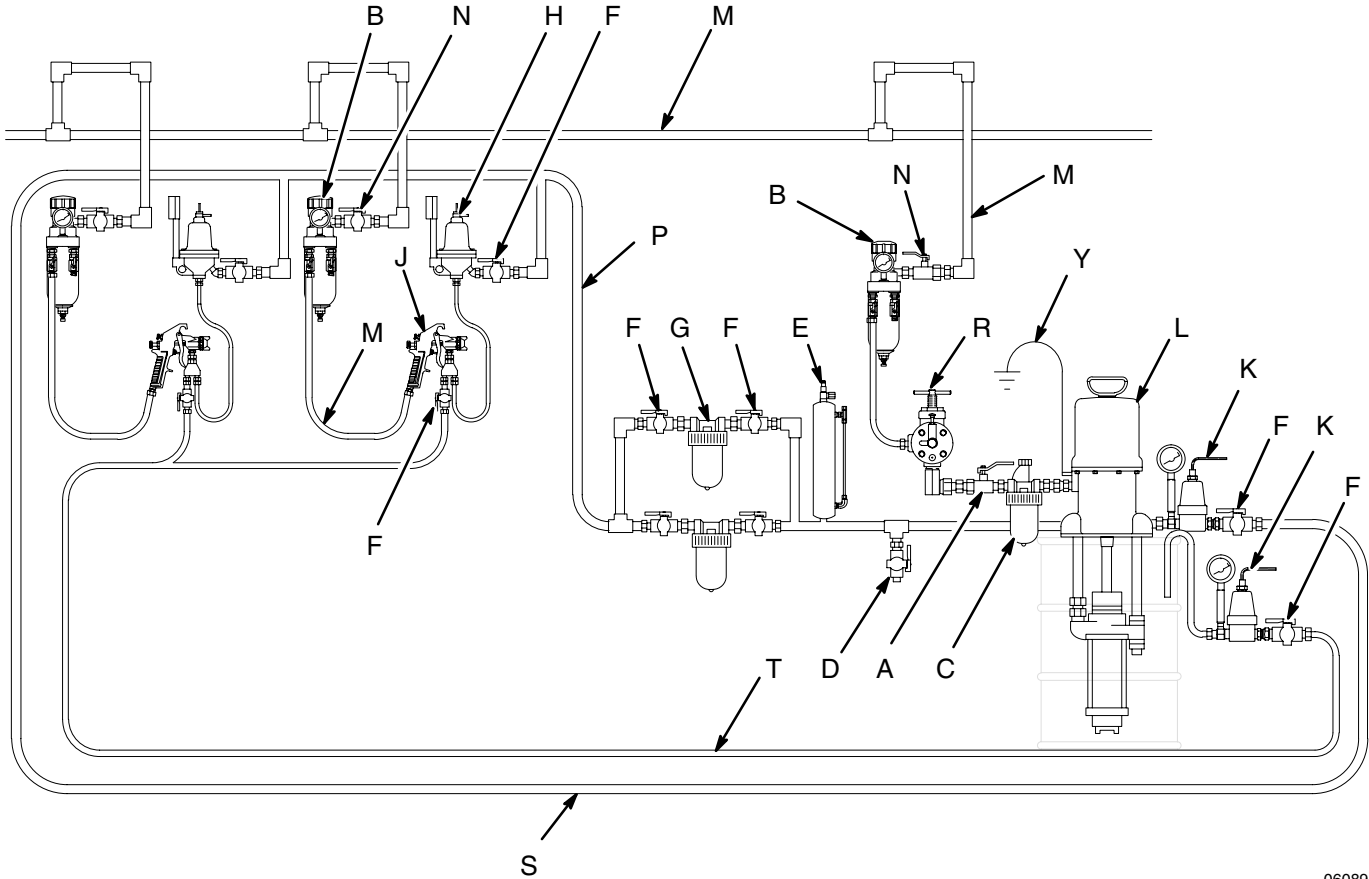

Fig. 2
Fig. 2 is only a guide for selecting and installing system components and accessories. Contact your Graco distributor for assistance in designing a system to suit your particular needs.
1. See Fig. 2. Remove the spray nozzle from the gun. See the gun instruction manual.
3. Close the pump air filter/regulator (B).
4. Close the fluid drain valve (D).
9. Open the air filter/regulator (B) until the pump starts. Run the pump slowly until all air is pushed out and the system is fully primed. Always use the lowest pressure necessary to get the desired results. Higher pressures cause premature tip and pump wear.